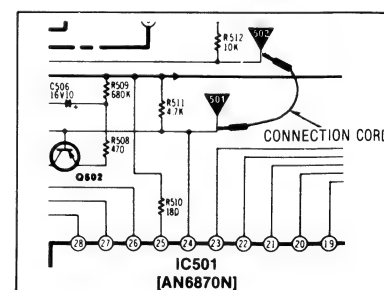

Fig. 23
2. Connect a wire between TP501 and TP502 terminal (See fig. 23).